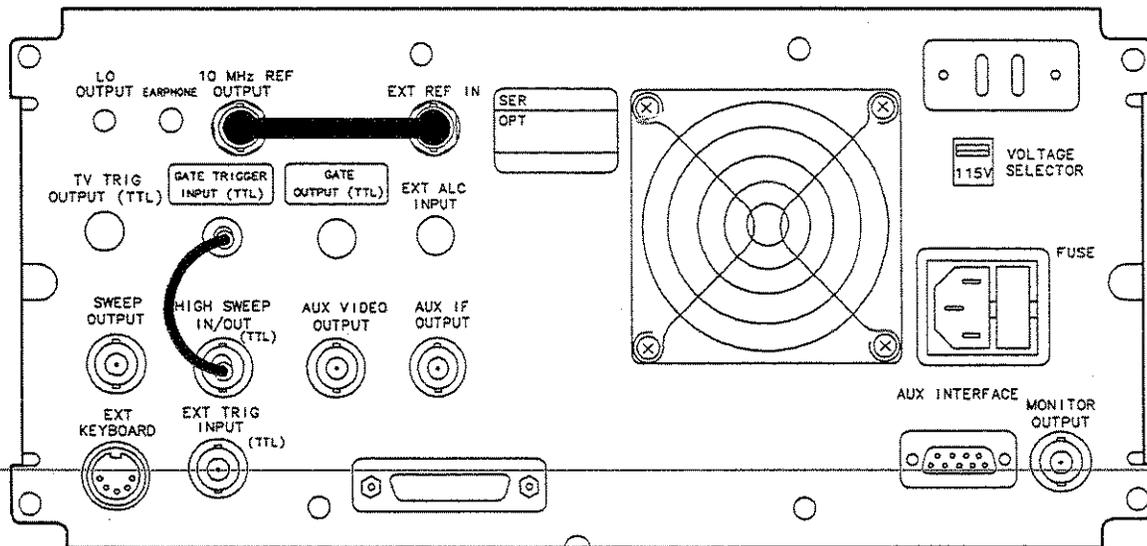

Figure 2-52. Rear Panel Connections for Option 105
1. Connect the rear panel HIGH SWEEP IN/OUT connector to the GATE TRIGGER INPUT connector with a short BNC calibration cable. (See Figure 2-52.)